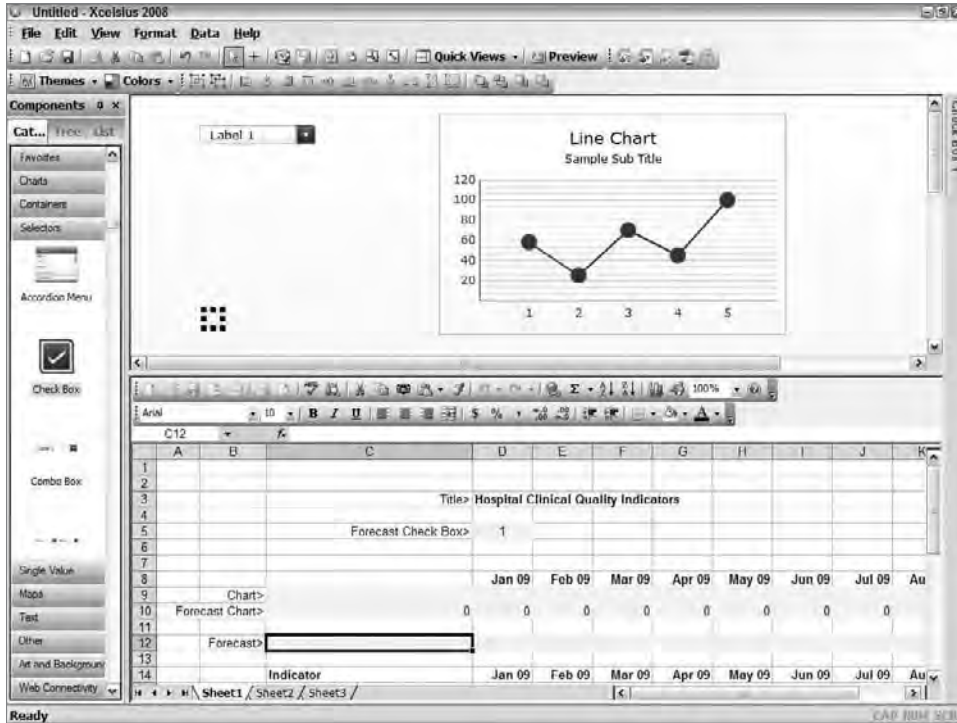

Figure 26.18: Dashboard components are selected from the list of components on the left and dropped onto the dashboard canvas where needed.
4. Add a check box from the Selectors at the left by clicking on Check Box and then clicking in the canvas well below the combo list. Your canvas should now look similar to that in Figure 26.18.